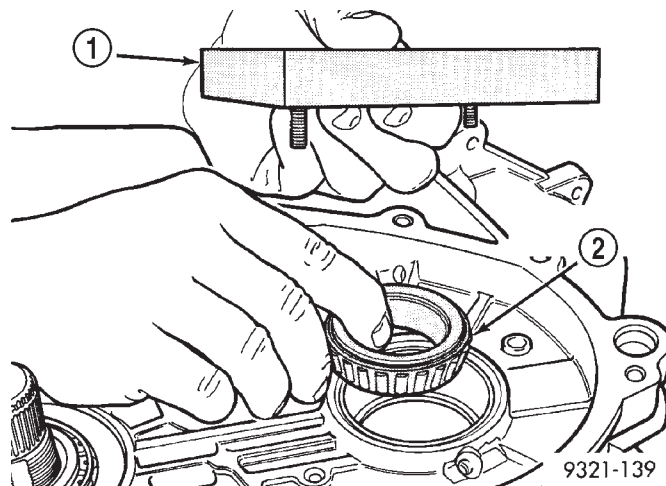

Fig. 305 Bearing Installation
- (1) Install rear output shaft bearing cone and special tool 6618A (Fig. 305).